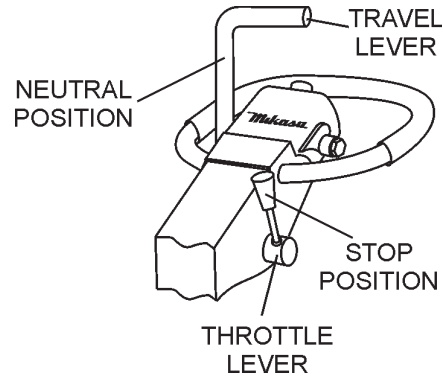
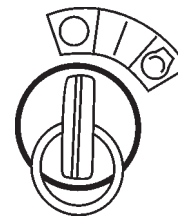

Figure 22. Throttle Lever (Stop)
Figure 23. Starter Switch (STOP)
- Place the throttle lever in the **STOP** position (Figure 22) to stop the engine. If using an electric start unit, return the key switch to the **STOP** position (Figure 23) as soon as the engine stops.